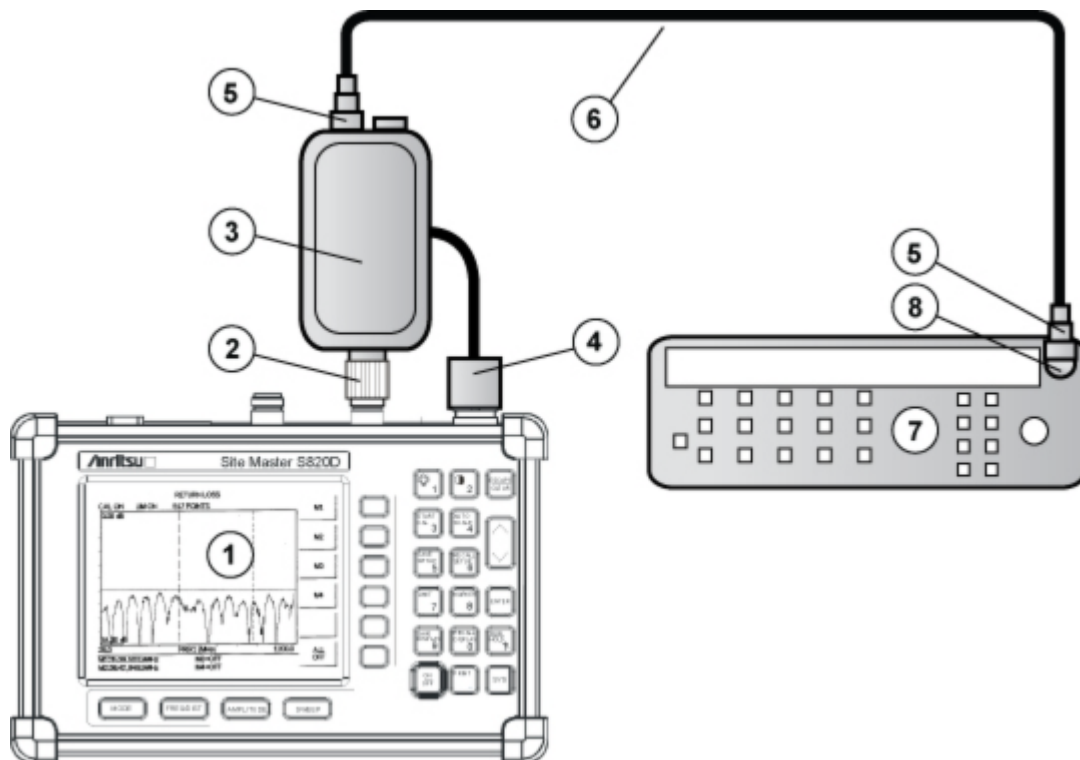

Figure 2-9. Two-Port CW Frequency Verification Connections
4. Connect the **RF-OUT X (f)** to the **CHANNEL 2** of the Agilent 53181A Frequency Counter with appropriate adapter and BNC cable as shown in Figure 2-9 below.
Table 2-2. Callout Index for Figure 2-9, “Two-Port CW Frequency Verification Connections”